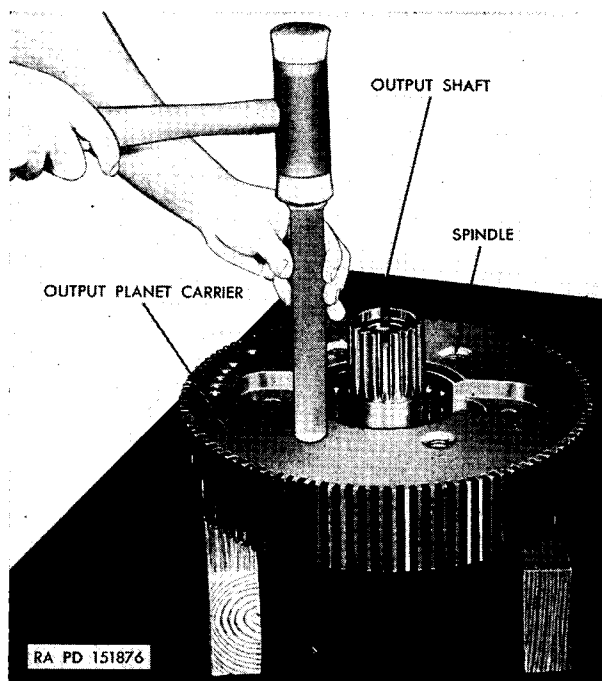

Figure 137. Tapping planet carrier spindle.
- (1) Using a $\frac{3}{8}$ -inch socket, remove the six bolts from the output planet carrier assembly.
- (2) Place the output planet carrier assembly on wooden blocks with the output shaft up. Rest the splined hub on the blocks.
- (3) Drive out of the planet carrier the four spindles which are attached to the output shaft, using a drift and a soft hammer. The pressure of the drift should be on the outer rim of the spindles (fig. 137).